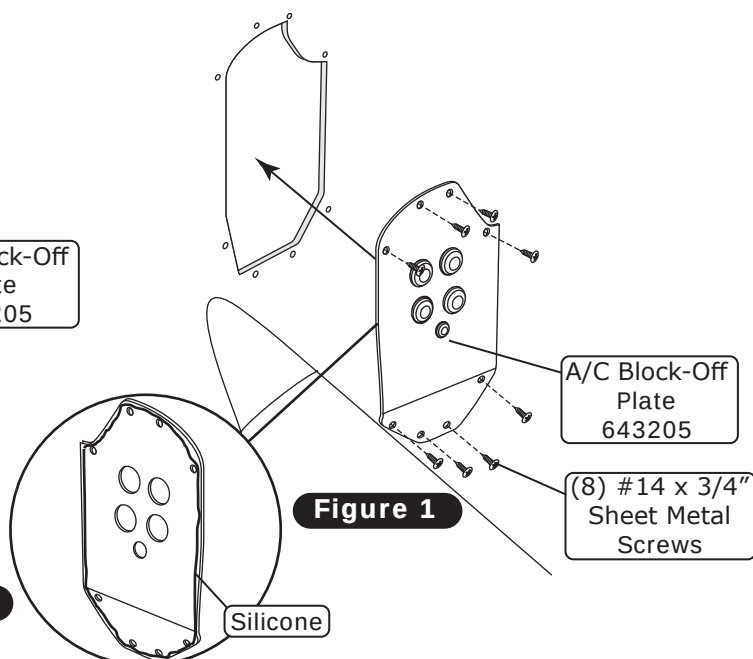

Figure 1a
1. Install (5) grommets into the A/C block-off plate as shown in Photo 1, below.
2. Apply a 1/4" bead of silicone around the mating surface of the A/C block-off plate as shown in Figure 1a, below.